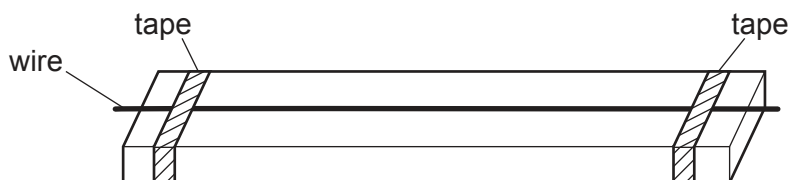

Fig. 1.1 (not to scale)
- 1 Use tape to fix the resistance wire to the metre rule as shown in Fig. 1.1.